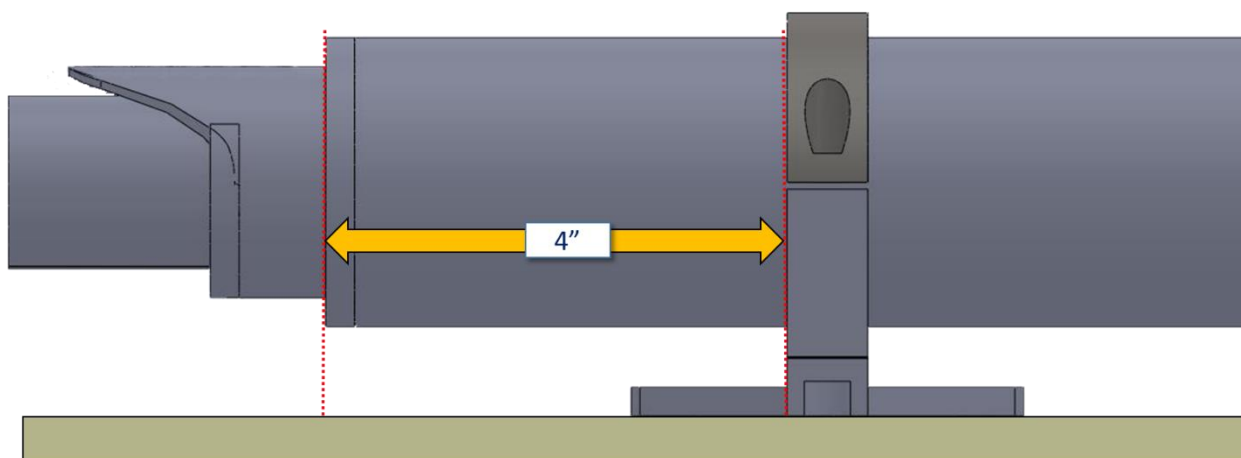

*Figure 9: Install Actuator and Top Mounting Clamps*
- b. Install top mounting clamps with included bolts. Ensure bolts are snug, do not over tighten. (See Figure 9.)
- At full extension ensure the locking pins engage the locking slot (See figures 9 thru 9B).
- Slide the aft crossbar into the ends of actuator tubes (See figures 9 & 9C).